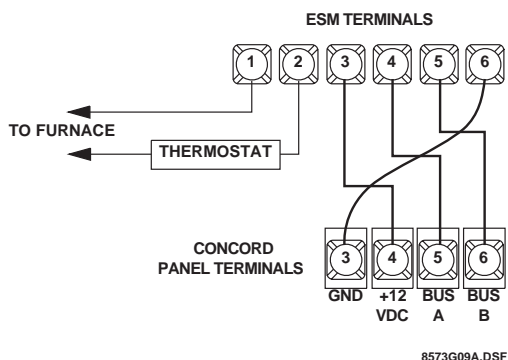

Figure 4. ESM Wiring Connections to the Thermostat and Concord Panel Terminals
4. Connect terminals 3 through 6 to the panel as shown in Figure 4.